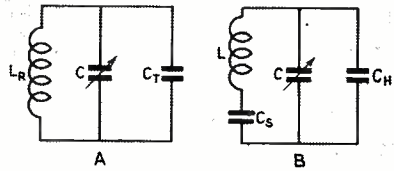

Fig. 1 — Oscillator with shunt trimmer across tuning condenser
Figure 1A shows a typical r-f circuit, where  $C_T$  is the r-f trimmer and  $C$  the main tuning condenser. Figure 1B shows the conventional oscillator circuit, where  $C_H$  is the shunt trimmer,  $C_S$  the series trimmer, and  $C$  the oscillator tuning condenser. For the moment both tuning condensers will be considered as being identical, although this is not a necessary condition. The only thing required to know about  $C$  is its minimum and maximum capacity. This information is supplied by the manufacturer of the gang condenser, or can be readily measured. The condensers  $C$  in Fig. 1 are assumed to vary from zero to maximum capacity. In other words the minimum capacity is considered to be part of the shunt trimmers in both the r-f and oscillator circuits.
Equations (9), (11) and (12) yield all the necessary information for tracking the circuit of Fig. 1.
Fig. 1—Attenuation of short waves generated at the transmitting antenna, T, and picked up at the receiving antenna, R, when the transmission path is over reflecting surface of the earth
"Automatic Radio Relay Systems for Frequencies Above 500 Megacycles" was the title of a paper delivered by J. E. Smith of RCA Communications. The discussion had special reference to television relay systems and the relay setup between Camp Upton on Long Island and New York City was described in some detail. Several relay stations are used here with little degradation in the quality of the signal. Wave propagation as applied to the transmission of 500-Mc signals over a reflecting surface, such as the earth, was discussed and the illustration of Fig. 1 shows a typical arrangement of transmitting and receiving antennas with respect to the earth's surface together with the formula for attenuation over such a path. It was stated that atmospheric noises in this part of the spectrum do not interfere to any considerable degree with the signal, but that thermal noise in the circuits and fluctuation noises do cause interference. In this type of service the speaker said that